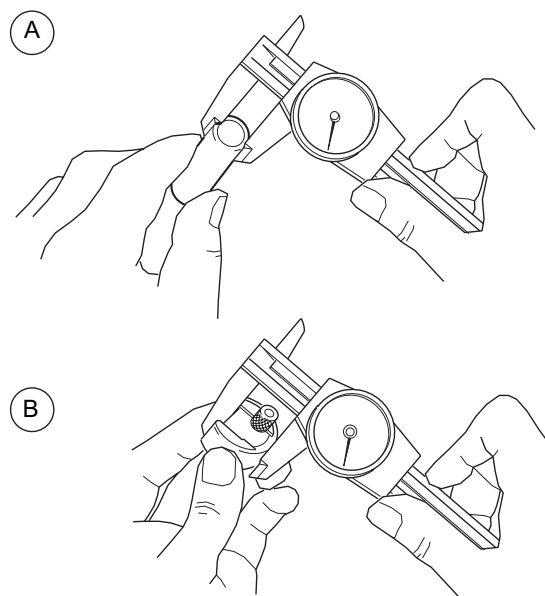

Figure 7 Setting an Arc Gap gage
1. Measure the outside diameters of the work pieces being welded using a caliper or micrometer. See Figure 7(A). The M100 will calculate the arc gap gage setting automatically when using the Auto Entry feature.